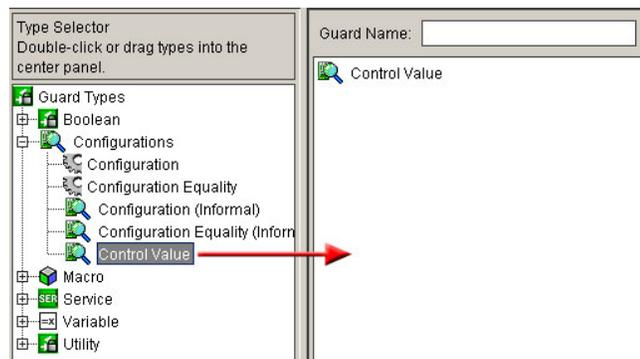

Figure 4-18: Adding Control Value Component
1. To create a Control Value, select the Control Value component and drag and drop it into the middle column. Figure 4-18 displays the Guard Contents column containing an item.